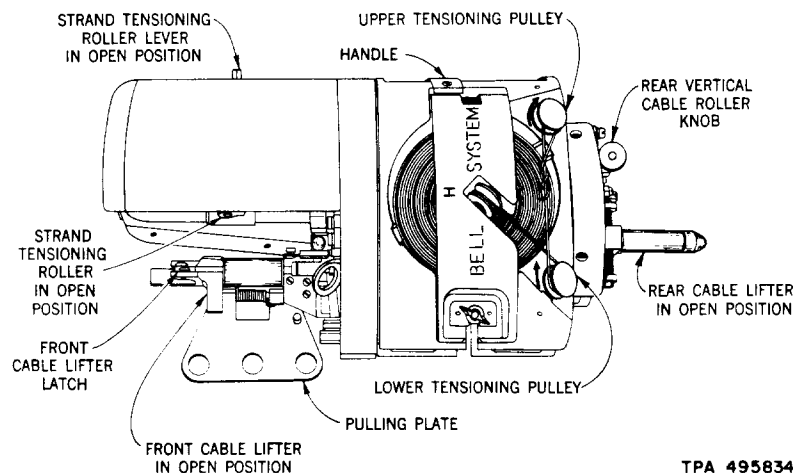

Fig. 1—H Cable Lasher—Left Side View
2.01 ♦The H Cable Lasher (Fig. 1, 2, and 3) is used to secure aerial cables of 1-1/2 inches and less in diameter to 6.6M, 6M, 10M, and 16M suspension strands with a spiral lashing of 045 C Steel Lashing Wire. The lasher consists essentially of a rotatable drum supported on a carriage that provides the mounting for a driving mechanism, cable lifters, cable and strand rollers, and a brake. A 5-foot bridle equipped with snap hooks at each end and a floating ring are furnished with the lasher.♦